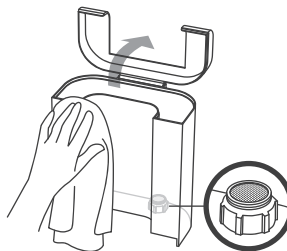
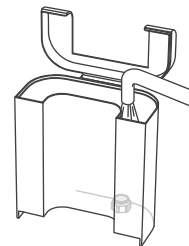

Fig. 27
Fig. 28
2. Open the Lid, and clean with a damp non-abrasive cloth and rinsed thoroughly. (Fig. 27)
3. To clean the Filter Screen at the base of the Water Tank. (Fig. 27) Empty the Water Tank and spray the filter screen with high pressure water. (Fig. 28)